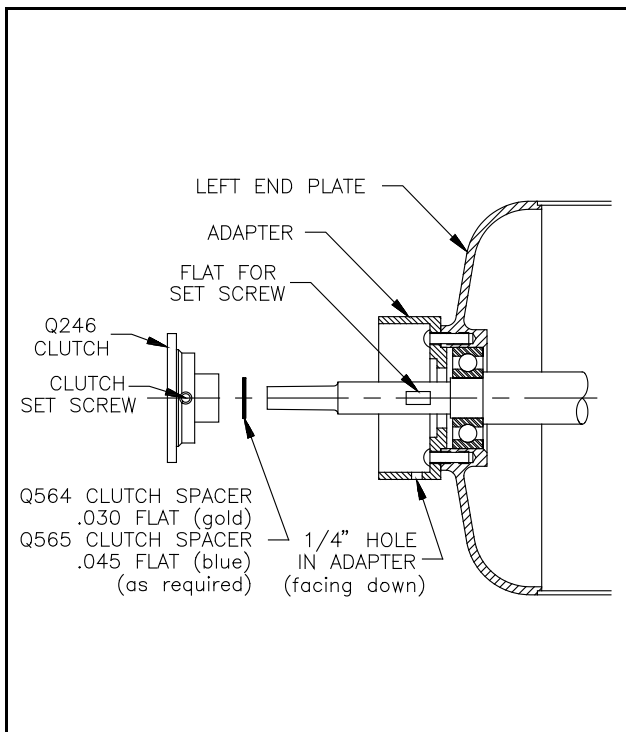

Figure 8. Cross section view
- 4.5 Check that the 1/4" hole in the side of the adapter is facing down. See Figure 8. Install the other two screws and firmly tighten all four. Go to paragraph 5.0 to install the clutch.